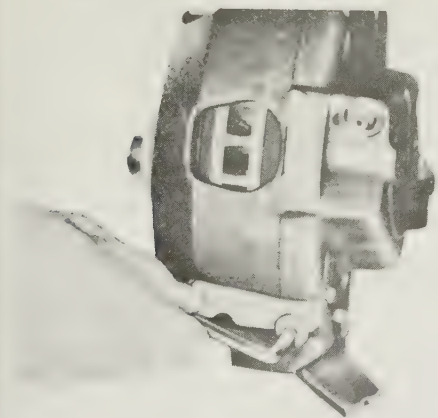

Fig. 9.2. Removing the screw retaining the caliper locking key (Sec. 5)
- 3 Remove the retaining screw from the caliper retaining key (Fig. 9.2).